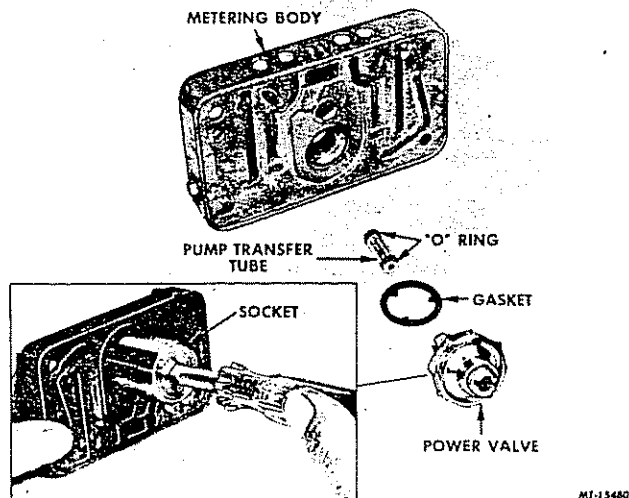

FIG. 28 — PRIMARY METERING BODY WITH ACCELERATION PUMP TRANSFER TUBE (DISASSEMBLED VIEW)
6. Remove power valve using 1" wrench or power valve socket. Remove power valve gasket and pump transfer tube with O-rings (if used) from metering body (Fig. 28).
2. Install a new gasket on power valve and install with proper wrench or socket. Torque to 100 in-lbs. (Fig. 28).